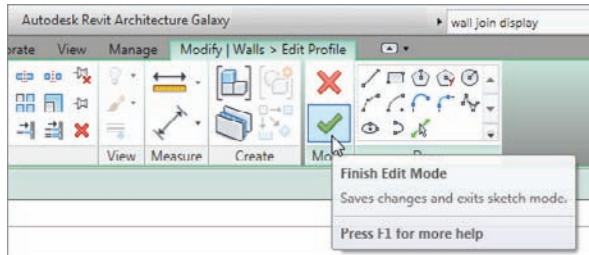
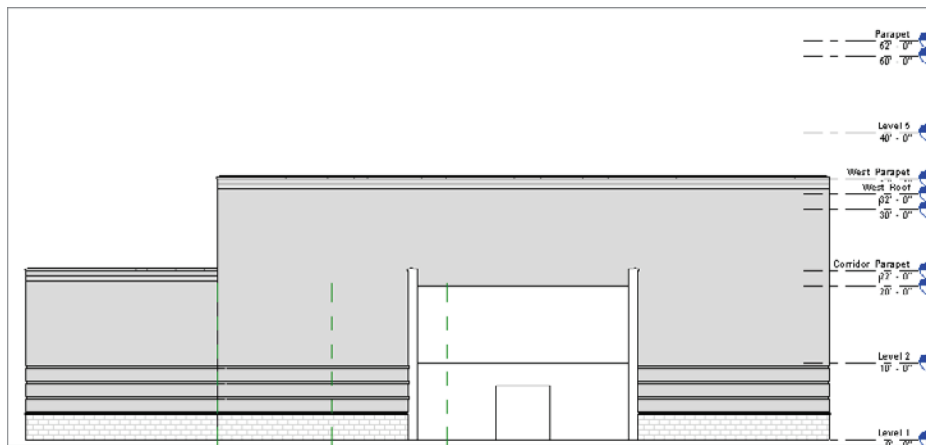

FIGURE 3.49 Clicking Finish Edit Mode
FIGURE 3.50 The finished wall profile
16. On the Wall panel of the Modify | Walls > Edit Profile tab, click Finish Edit Mode, as shown in Figure 3.49. Your finished wall profile should look like Figure 3.50.
1. Select the internal (white) wall with the door opening, as shown previously in Figure 3.50.